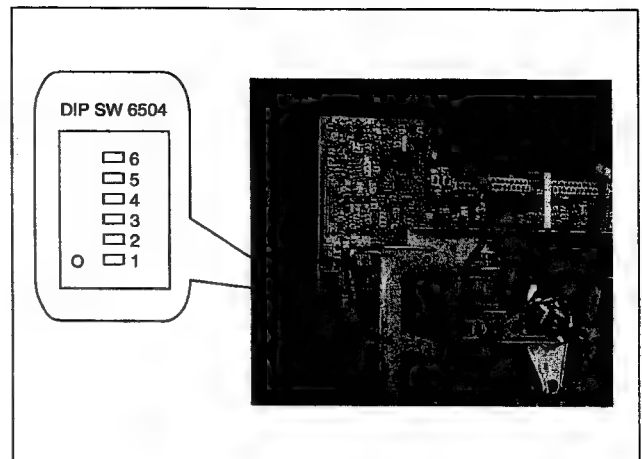

Fig. E20
4. Adjust the DIP SW as shown in Figure E20.